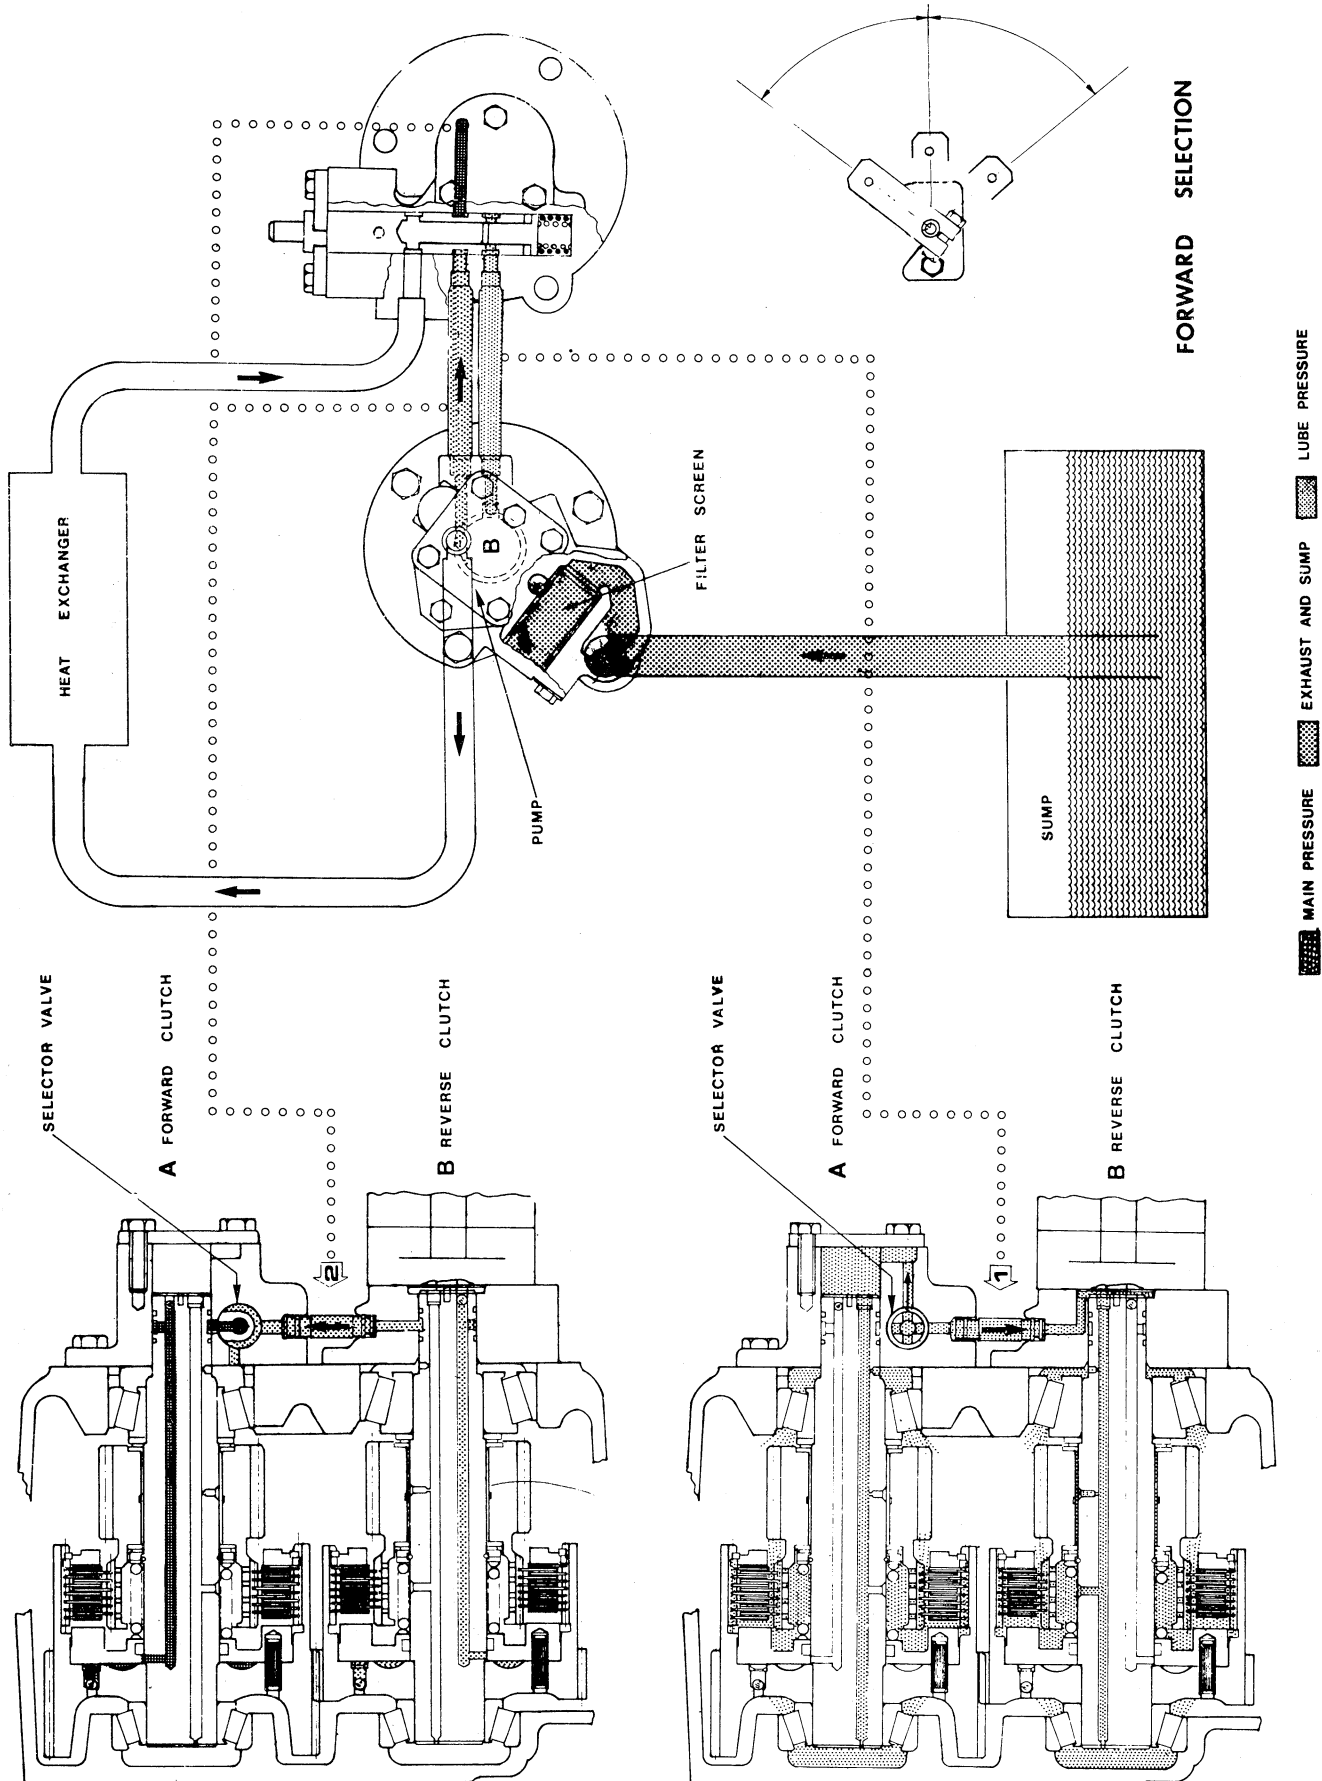

Fig. 8 . Marine Transmission oil flow - Forward clutch applied - Schematic drawing.
B. Forward clutch applied (fig. 8). Oil is pressurized by the main regulator valve in the regulator valve body to approximately 250 psi or 310 psi depending on springs used. Oil is routed by the selector valve spool in the valve body to an annular groove and cross drilled hole in the forward clutch shaft. An annular chamber formed in the rear of the clutch shaft is sealed on both sides by piston rings. The cross-drilled hole in the clutch shaft intersects a horizontally-drilled hole in the shaft that is terminated by a ball plug installed in the end of the shaft. A second cross-drilled hole, that also intersects the horizontally-drilled hole, permits the oil to enter the chamber between the forward clutch housing gear and the clutch piston. The oil pressure moves the clutch piston against the clutch plates, and the forward clutch is engaged. Any oil that exists in the reverse clutch is returned to sump by the position of the selector valve the force exerted by the clutch piston spring and a ball dump valve. Overage oil in the regulator valve body chamber passes by the regulator valve and enters the lube oil tube for cooling and lubricating functions as described in Neutral.